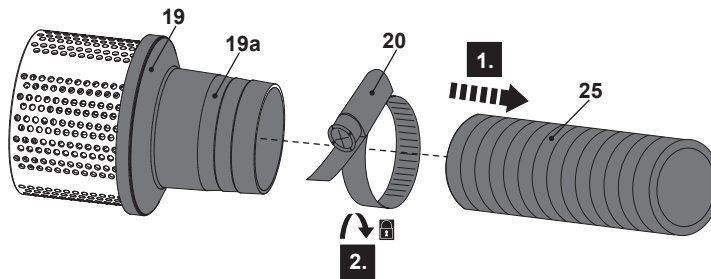

Fig. 3
- Attach the clamp (20) on the other side of the suction hose (25) (not provided). Do not fix the clamp at this step (Fig. 3, step 1).